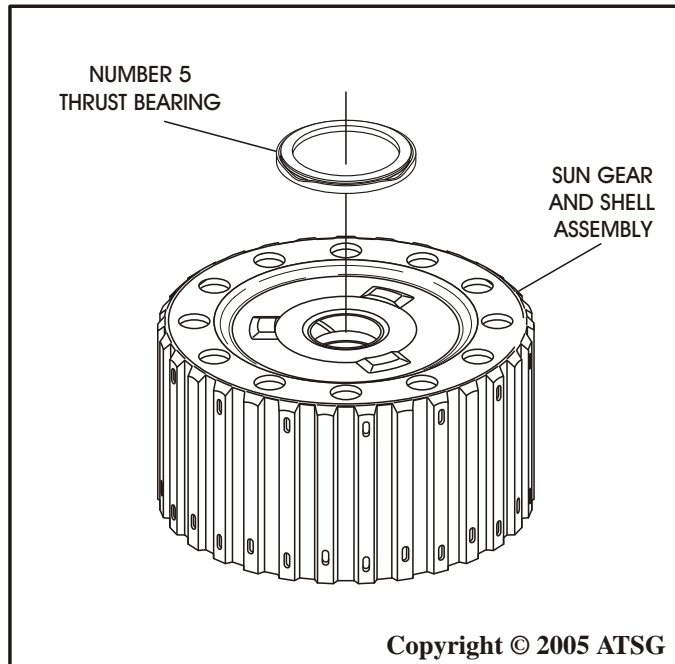

Figure 103
1. Install the number 5 thrust bearing onto the sun gear and shell assembly in the direction shown in Figure 103, and retain with a small amount of Trans-Jel®.